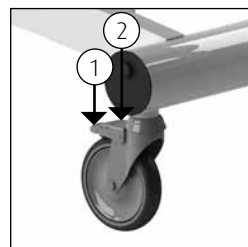

Figure 1 Wheel blocking.
- The brake can be applied on the Marina basic by pushing the blue lip (1) on the wheel downwards (See figure 1).